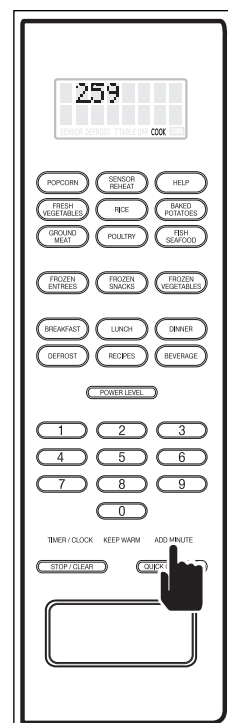

Figure 3-34.
- If the microwave is already running in Time Cook Mode or Defrost Mode and the ADD MINUTE key is pressed, one minute will be added to the cooking time for every key stroke of the ADD MINUTE key (See Figure 3-34). At the end of the cooking time, “END” will flash on the display and the alarm will beep.